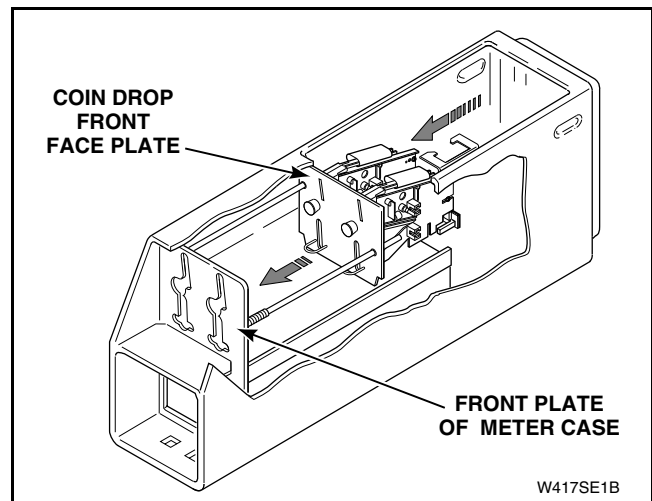

Figure 20
- q. Carefully slide coin drop forward into position. Refer to *Figure 20*. (Front face plate of coin drop should be secure against front plate of meter case.)